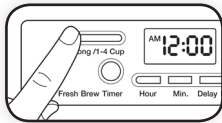

Figure 17
- 9 To enjoy a bolder cup of coffee or if brewing 4 cups or less, press the Strong/1-4 Cup Button now. (Figure 17) (Refer to the STRONG/1-4 CUP BUTTON section) **Note:** You cannot turn off the Strong/1-4 cup mode once brewing has started.